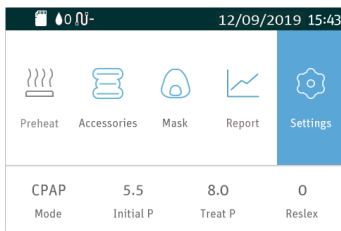
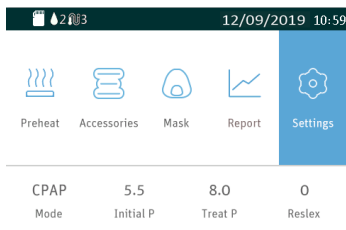
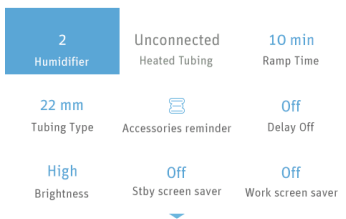

Fig. 15-1
Fig. 15-3
Fig. 15-4
- (1) Turn on the device. The device screen displays the Main Screen shown in Fig. 15-1.
(1) Turn on the device. The device screen displays the Main Screen shown in Fig. 15-1. Turn **the Knob**  until the cursor is on the icon , and the screen displays the Initial Setup Interface shown in Fig. 15-3. Press **the Knob** , and the first option on the Initial Setup Interface turns blue, as shown in Fig. 15-4.